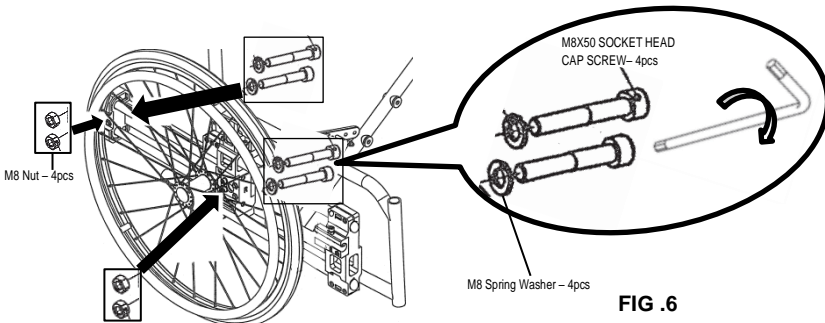

FIG .6
6. Fit the Retractable Kit mounted with wheel onto the Back Support bar by using fastener from step 3 (See fig.6)